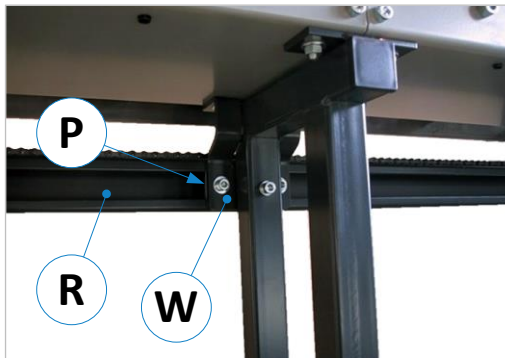

Figure 11: Fitting the chain guide tube
- **Only EXAKT A:** The chain guide tubes (**R**) are simply pushed over the pre-mounted clamping plates (**P**) on the angle brackets (**W**) – see ⇒ Figure 11 - and then fixed in alignment using hexagon socket screws. The deflection (**U**) for the chain is mounted on the end pieces (see ⇒ Figure 12).